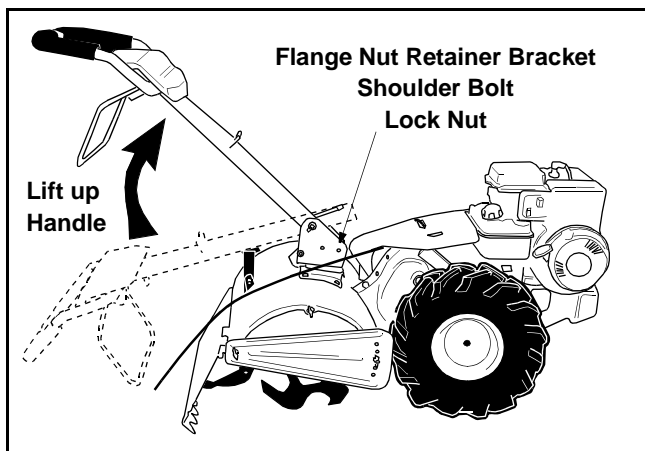

Figure 3
- Lift up the handle assembly and align the bottom holes in the handle assembly with the holes in the pivot bracket. Insert hex bolt (with hex nut retainer attached through the round hole). The head of hex bolt and retainer bracket should be to the right hand side of the unit. See Figure 3.